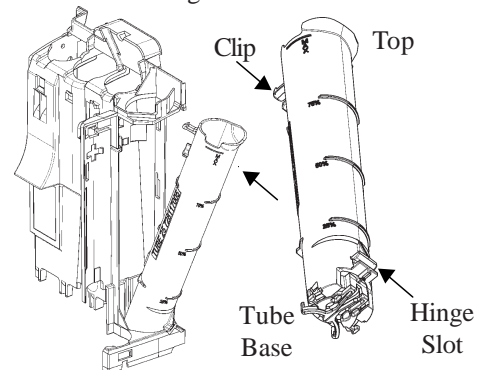

Figure 2
- 2) Lift up the left side of the cassette fascia ( as shown in figure 2) and remove.
2) Insert the right side tabs of the cassette facia into the hinge slots located on the cassette spine. Once inserted, hinge the left side closed. Then slide the cassette facia up to lock it into place (see figure 2).